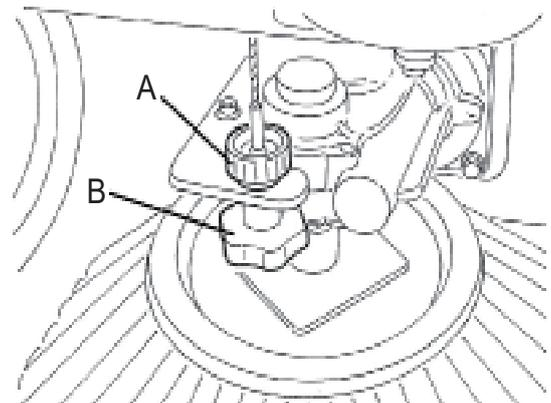

Figure7
- 2) Turn the ignition key (71) to "0".
- 3) Loosen the knob (A, Fig. 7) positioned above the brush.
- 4) Turn the knob (B, Fig. 7) and remind that: